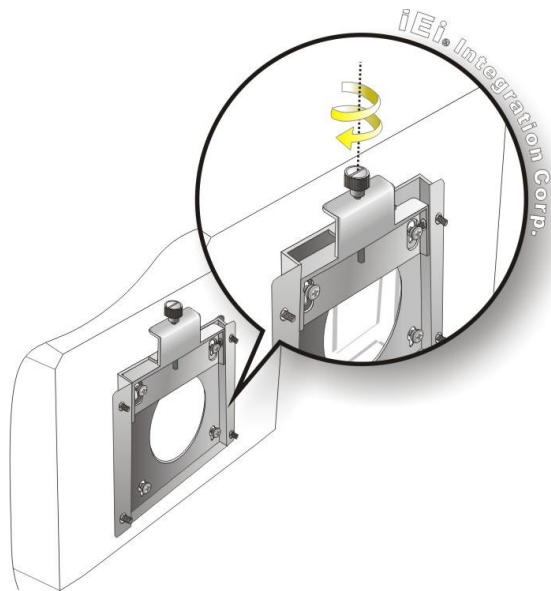

Figure 3-8: Secure the Panel PC
Step 9: Secure the panel PC by fastening the retention screw of the wall-mounting bracket (**Figure 3-8: Secure the Panel PC**).